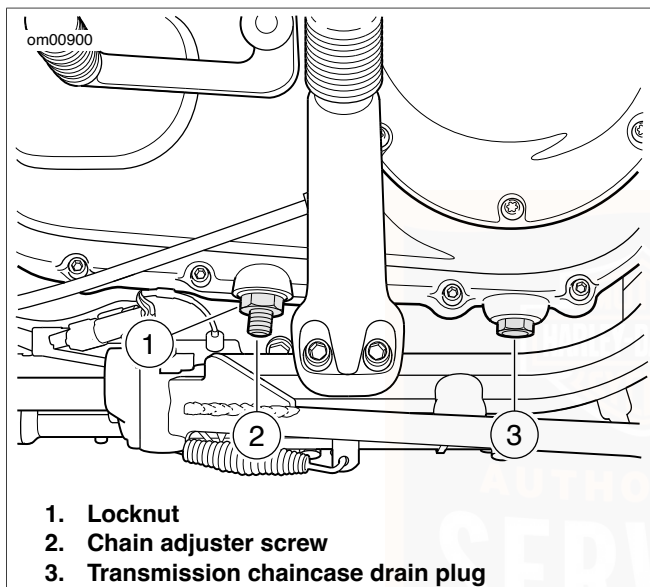

Figure 50. Primary Chain Adjuster: Sportster Models
1. See Figure 50. Loosen locknut (1).
2. Turn chain adjuster screw (2) clockwise (inward) to reduce free play or counterclockwise (outward) to increase free play. Free play must fall within specifications. Refer to Table 34.